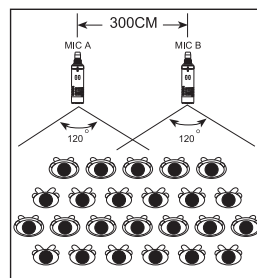

Fig.2
- Proper distance between microphone and front sound source is less than 100 cm, and less 250 cm to the rear source. (Fig.2)